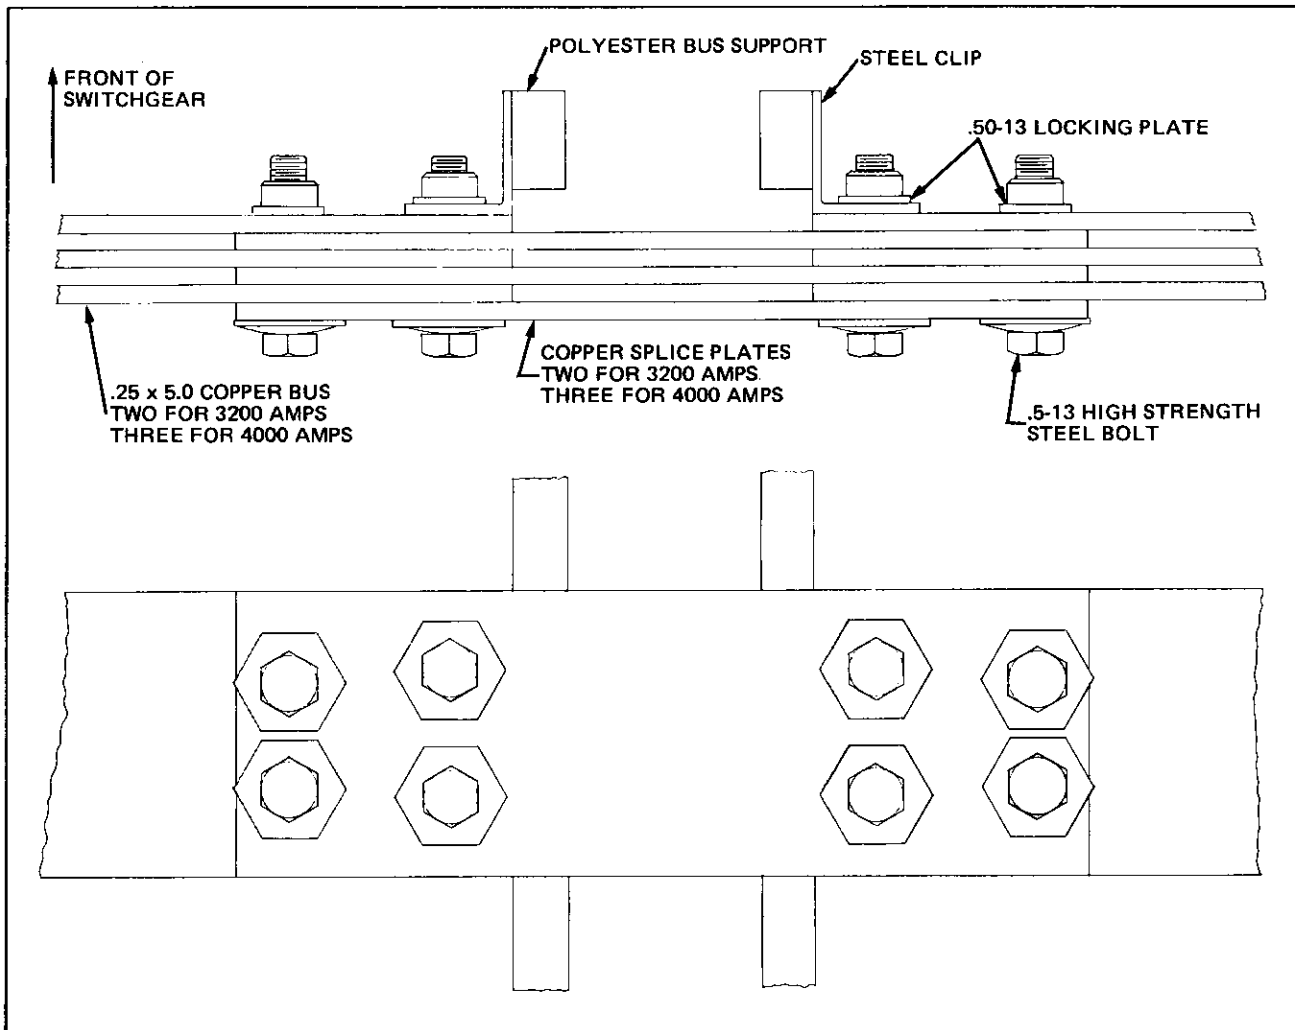

Fig. 40 *Field Assembly of Joints in 3200/4000 Amp Copper Bus*
5. 3200 Amp Copper Bus - Fig. 40.
6. 4000 Amp Copper Bus - Fig. 40.
When required on a four wire system an insulated neutral bus is supplied, located in the bus compartment approximately 44 inches above the floor. The neutral bus is always copper, regardless of the main bus material. See Fig. 40. Available neutral bus sizes are listed in the following table.